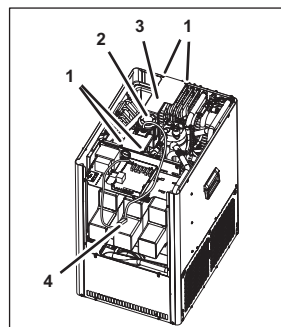

Figure 43
1. Disconnect the plug (Figure 43/4) from the stirrer motor (Figure 43/2).
2. Remove the fastening bolts (Figure 43/1) from the stirrer motor mount (Figure 43/3).
3. Lift the stirrer motor mount (Figure 43/3) with stirrer motor (Figure 43/2) out of the unit.
11. Connect the plug (Figure 43/4) to the stirrer motor (Figure 43/2).